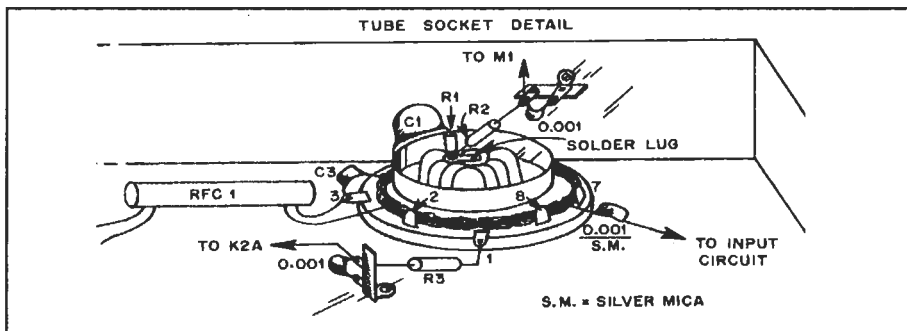

Fig 2—Tube socket detail. See text.
There are many sockets designed for use with this family of tubes. I recommend that you use one that incorporates a built-in screen bypass capacitor (1100 or 2700 pF); either one will do. A few of these types of sockets are so constructed that the four cathode pins are grounded internally; do not use one of these. An Eimac SK-600 or SK-620 socket is recommended. The four cathode pins (2, 4, 6, 8) and one of the filament pins (7) of the socket must be wired together to form one low-inductance connection. The easiest way to do this is to carefully bend pins 1 and 3 parallel to the chassis, and then strap together pins 2, 4, 6, 7 and 8. Make certain that this strap forms a complete circle around the socket. For strap material, I use some stretched and flattened shield braid removed from RG-58 coaxial cable. All connections made to the cathode, or the filament (pin 7), can be made anywhere along this ring. See Fig. 2 for details.
The home-brew compression-type variable capacitors, shown in Fig 2, dictated the overall design. I made them as small as possible (to minimize selfinductance), but kept them large enough to provide the necessary capacitance. The nominal 5/8-inch-square compression plate results in a maximum capacitance of about 10 pF. The material used for the capacitor plates is 0.031-inch-thick Reynolds sheet alumi-
C1-C11—Homemade capacitors; see text and Fig 2 for details.